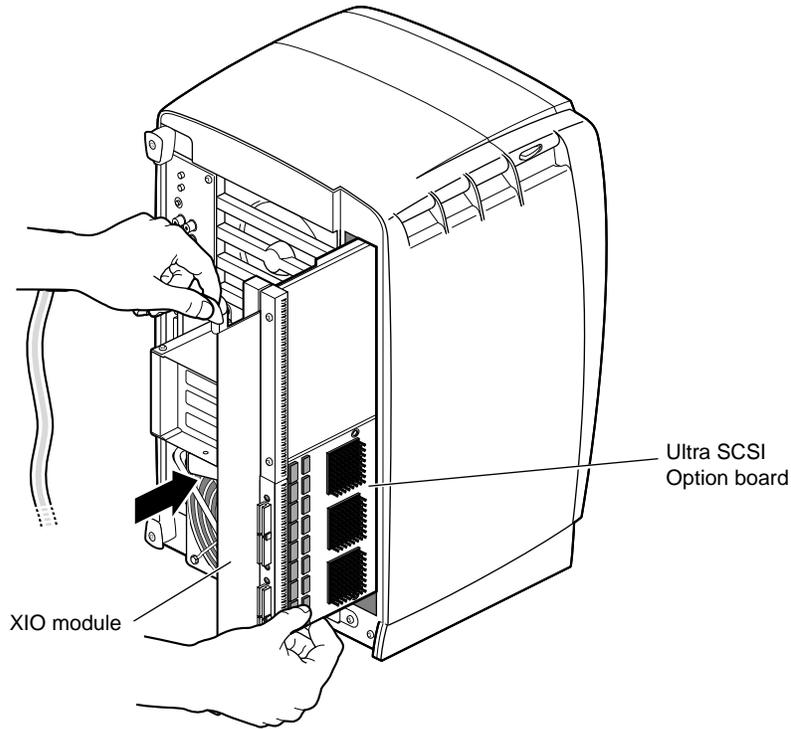

Figure 2-16 Replacing the XIO Module
2. Before you insert the XIO module, make sure the handle portion protrudes in a locked position from the I/O panels, as shown in Figure 2-16.
If the handles are flush with the I/O panels, the XIO module will stop during insertion. Pull out the handles until the sliding portion of the XIO module looks like that shown in Figure 2-16, and then continue inserting the XIO module into the chassis.